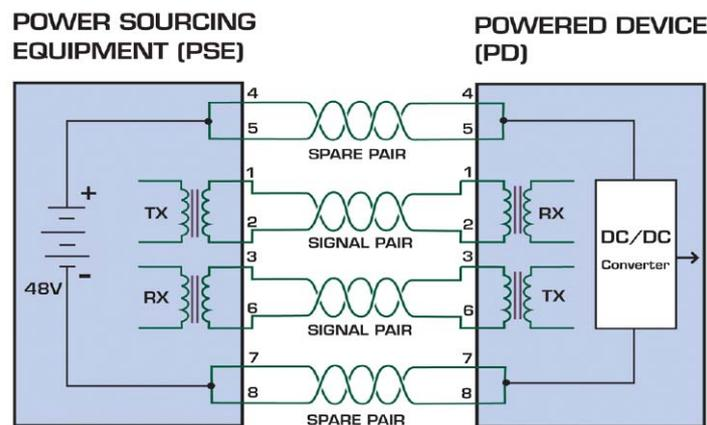

Fig. 4 - Power Through the Cable on the Spare Pairs
- The spare pairs are used. Figure 4 shows the pair on pins 4 and 5 connected together and forming the positive supply, and the pair on pins 7 and 8 connected together and forming the negative supply. (In fact, a late change to the spec allows either polarity to be used).